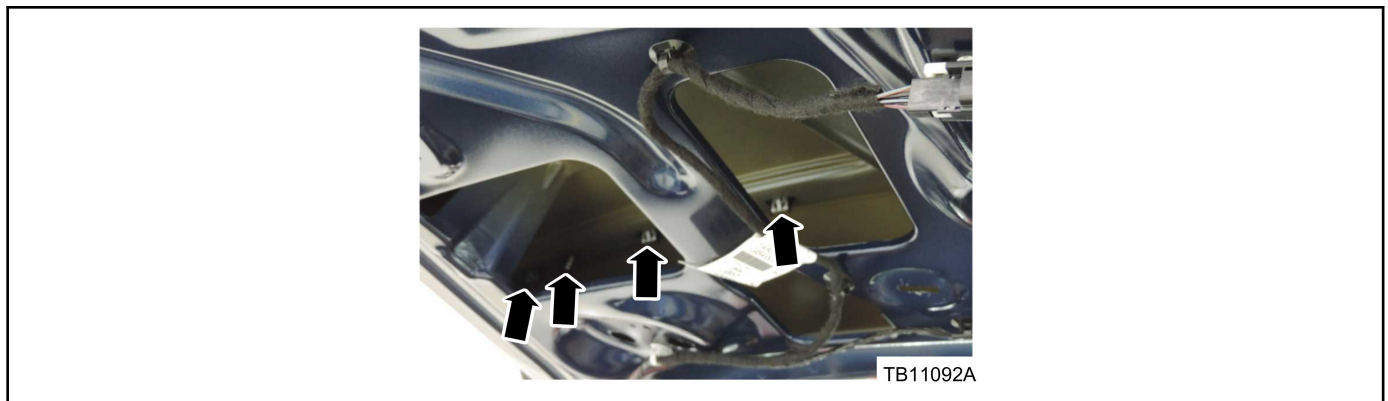

Figure 24 - Article 17-0044
- a. Rear applique attachments, left side. (Figure 24)